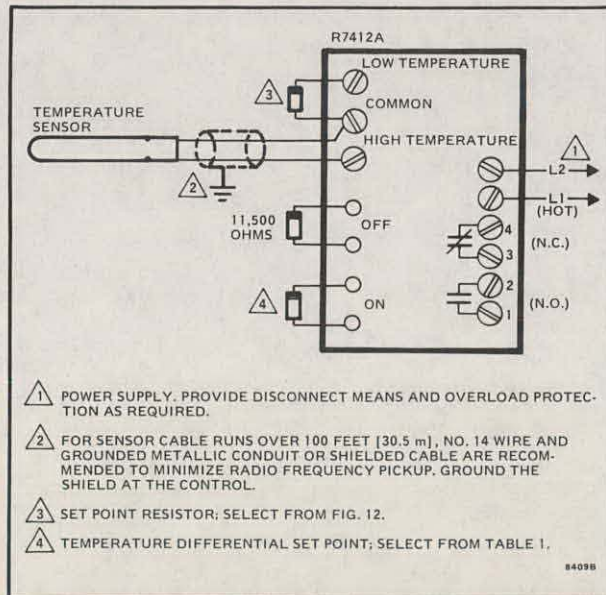
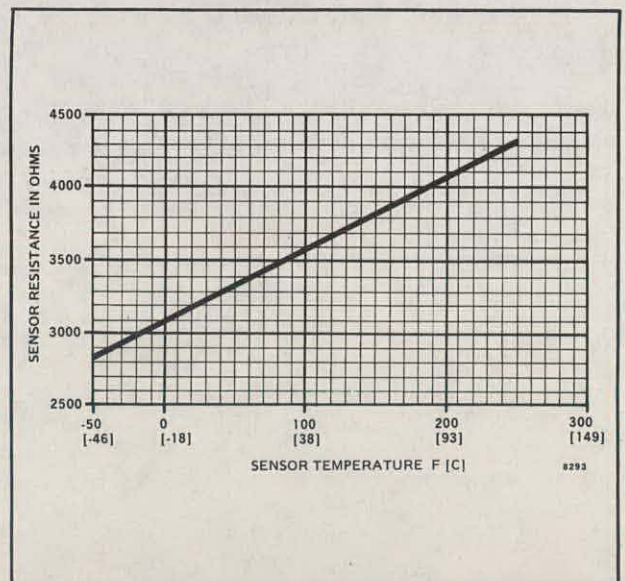

FIG. 10—SINGLE FUNCTION SET POINT CONTROL. CONTROL MAKES ON TEMPERATURE RISE TO SET POINT PLUS DIFFERENTIAL, BREAKS ON TEMPERATURE FALL TO SET POINT.
FIG. 12—R7412A SINGLE FUNCTION TEMPERATURE SET POINT. CHOOSE A RESISTANCE ACCORDING TO THE DESIRED SET POINT.
Use the following procedures to change the factory-set differential temperature controller to a single function temperature controller as indicated in Figs. 10 and 11.
3. To adjust the temperature setpoint, select a resistor value according to the graph in Fig. 12. Connect the selected setpoint resistor to the low temperature and common terminals for make on temperature rise control (Fig. 10). Connect to high and common terminals for make on temperature fall.